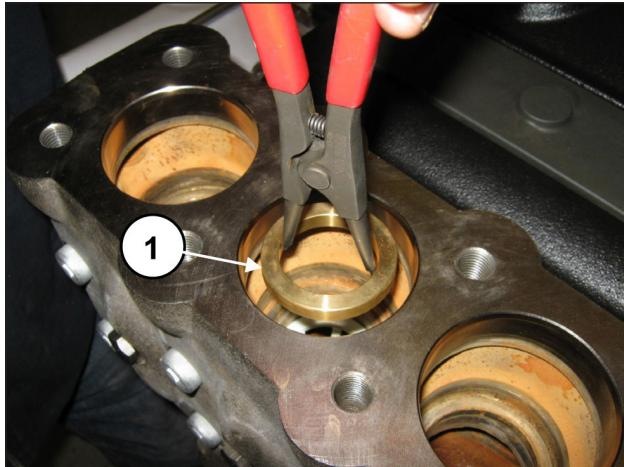

Fig. 101
Remove the valve housing spacer ring (pos. ①, Fig. 101).